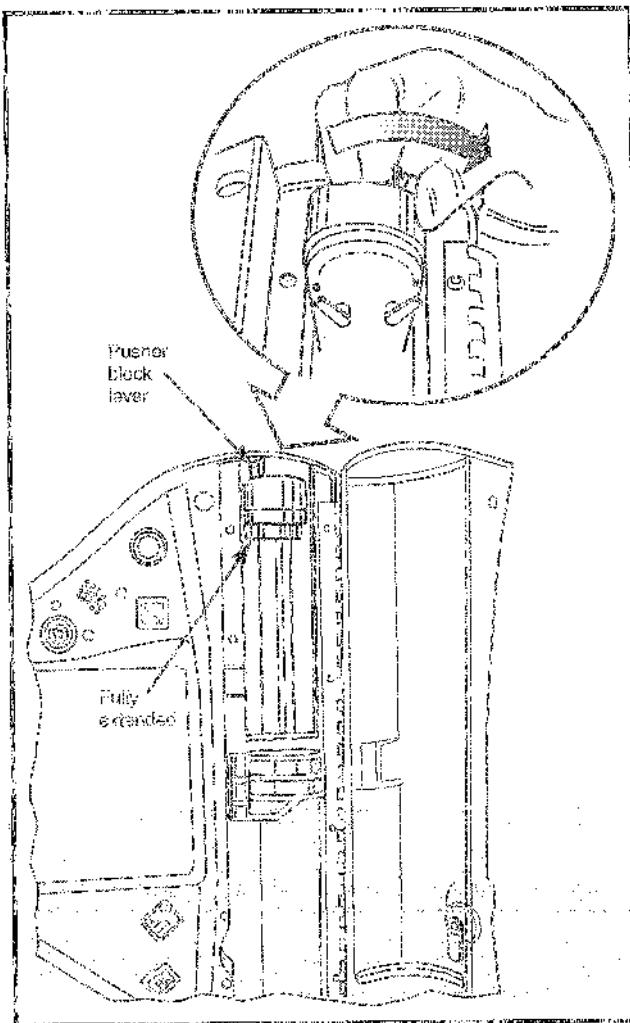
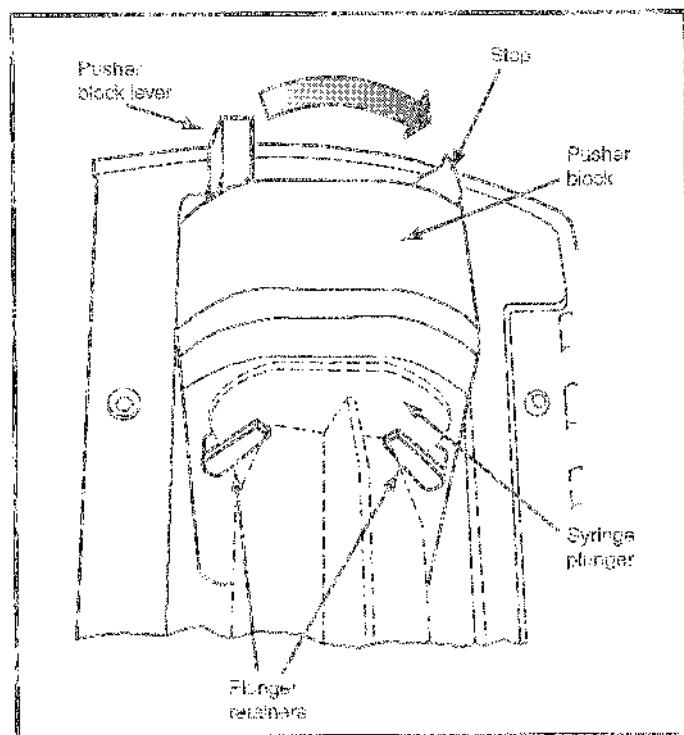

Figure 8
Figure 10
3. Refer to Figure 8. Fully squeeze the pusher block lever against the stop (refer to Figure 10). Then, slide the pusher block as far as possible to the top.
6. Fully squeeze the pusher block lever against the stop. Carefully move the pusher block until it contacts the syringe plunger (refer to Figure 10). Release the pusher block lever to secure the syringe plunger.
Note: Ensure that both plunger retainers capture the syringe plunger (refer to Figure 10).